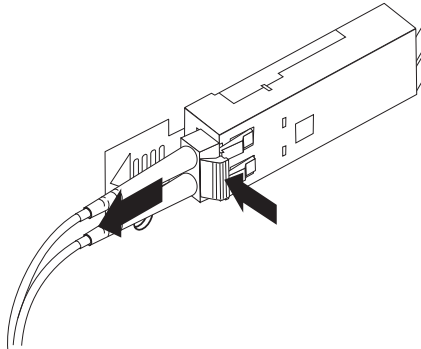

Figure 23. Removing the LC-LC Fibre Channel cable
2. While pressing down the cable lever, carefully pull on the connector to remove the cable from the SFP module, as shown in Figure 23.